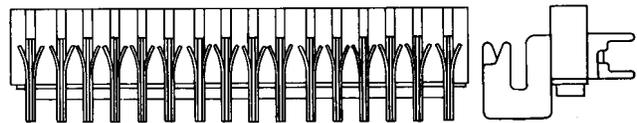

Fig. 6—461A Jack
**2.06 461A:** This multicontact jack (Fig. 6) consists of a wooden strip on which there are mounted 16 pairs of contact springs insulated from each other. The terminals are arranged for mechanical connections. This jack is also used with the 333A plug in J32311 connectors and connector shelves in the 355A dial office. The 461A jack is furnished with springs that are adjusted but can be adjusted when assembled in equipment units so that the two springs in any or all sets of springs will make contact with each other when the plug is removed.